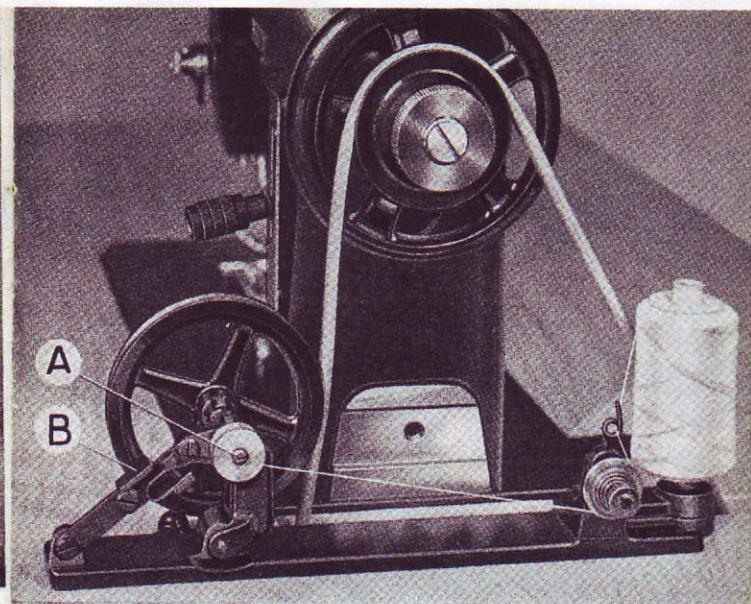

Fig. 7
1. Place spool of thread on spool pin of bobbin winder (see Fig. 7), then guide thread between tension discs of bobbin winder and tie the thread to the empty bobbin by winding the thread end several times around the bobbin. Finally, place the bobbin on the spindle **A**.